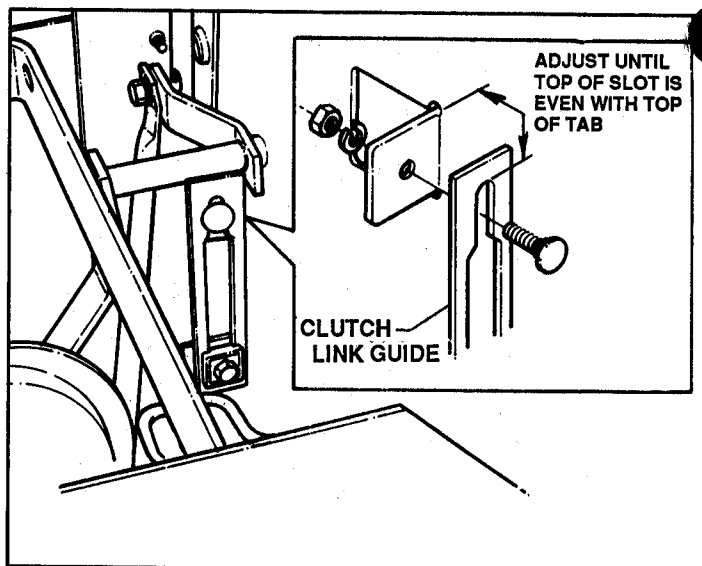

FIGURE 4.5
3. Recheck to make sure that the guide is set properly. See Figure 4.5.